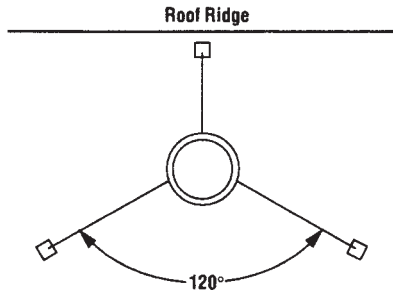

Figure 31
Note: If chimney extends more than 8' above roof surface, guy wires are also recommended. Use three (3) guy wires, attach to locking band assembly, extend and secure to roof in a triangular pattern (Figure 31). Guy wires are not supplied by Superior.